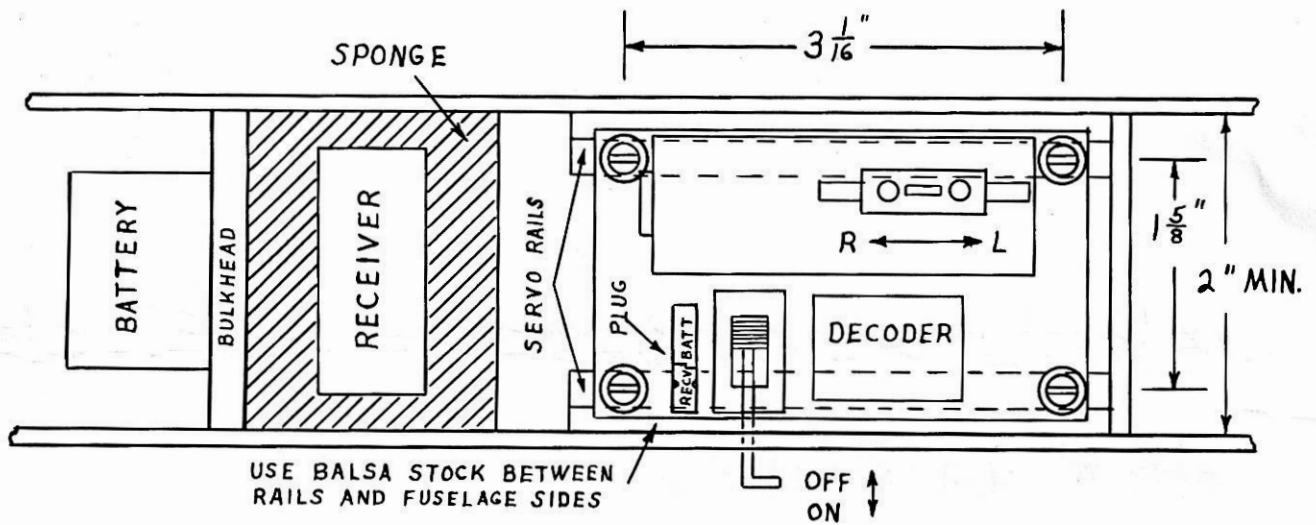

Figure 3
- A. Servo tray should be mounted in the direction shown in Figure 3 with the battery and receiver plug to the front of the plane for neatness and convenience. If it is desired to reverse direction of servo travel, servo may be easily unscrewed from the servo tray and turned around.